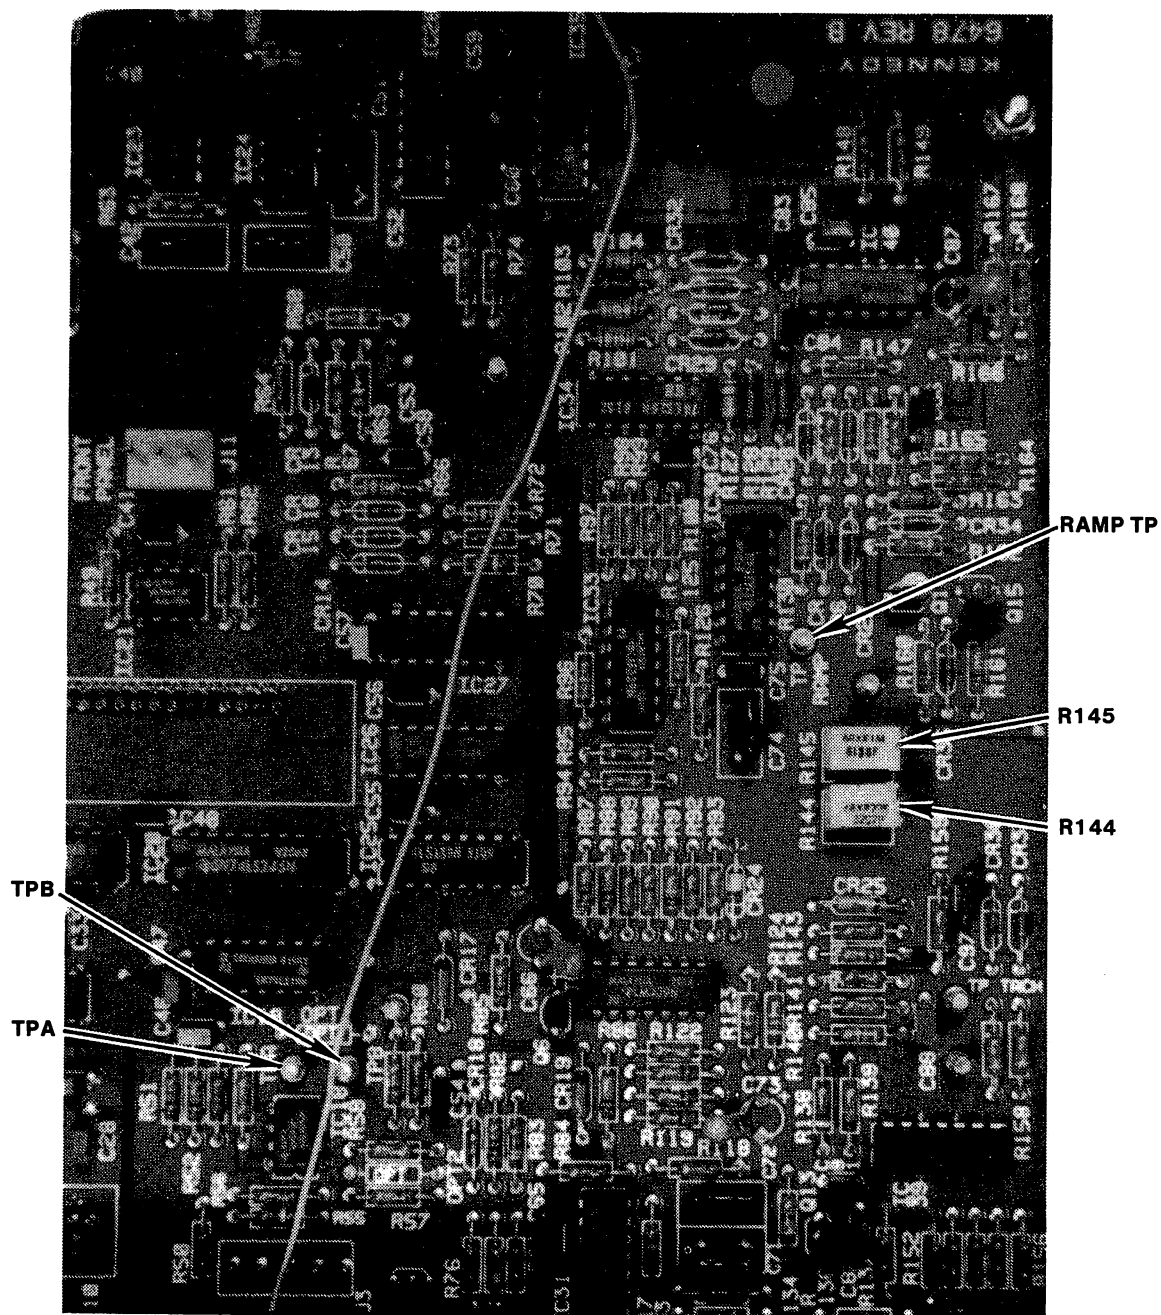

Figure 5-8 Portion of Control/Read/Write Board
- h. Place the tape back into the drive. Using an oscilloscope or a voltmeter attached to test point A on the Control/Read/Write board, align the sensor so that the maximum voltage is displayed. (The Control/Read/Write board is located behind the hinged cover on the bottom of the chassis and test points A and B are shown in Figure 5-8).
The ramp adjustment procedure is greatly simplified by using the ramp adjust test in conjunction with potentiometer R145 (see Figure 5-8) which is located on the Control/Read/Write board. NOTE: In some units it may be necessary to remove the tape drive from the Wang chassis (keeping power connected) to access R145. To adjust the ramp, set the diagnostic switch to 0001 and adjust potentiometer R145 until the transport shuttles the tape back and forth. When ramp setting is incorrect, the transport will move the tape in the forward direction only.
Alternately, the ramp time may be observed by placing an oscilloscope probe on the ramp test point (see Figure 5-8) on the Control board and initiating rapid start/stop mode (via the Write Continuous test) long enough to allow the ramp voltage to reach a level. The ramp time is then adjusted using R145 to equal 25 msec as shown below. Make sure the tape is being written in the FORWARD direction before attempting ramp time adjustment with the oscilloscope.
This routine initiates continuous writing of file marks to allow for the adjustment of the tape speed using speed adjustment potentiometer R144 (see Figure 5-8) on the Control/Read/Write board. The tape will move in the forward direction until proper speed is achieved, at which point it will shuttle back and forth.